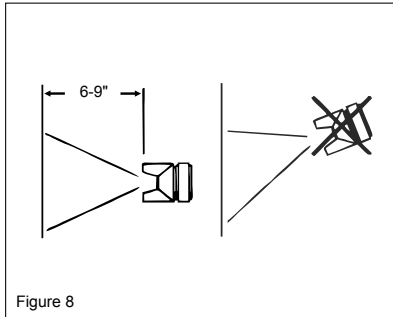

Figure 8
4. Keep the spray gun at the right angle of 90 degree to the surface being covered and maintain an even, steady distance and speed. (See Figure 8)